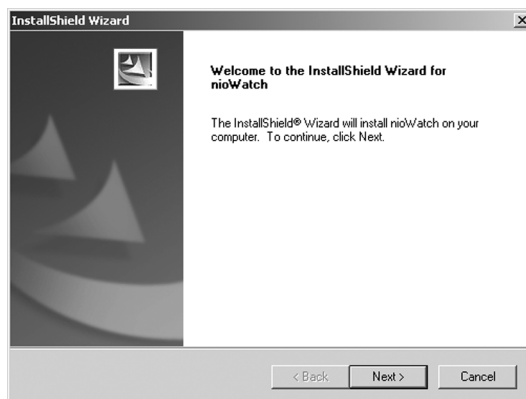

Figure 26
1. Click **“Next”** on the Welcome Screen of the BARCO NioWatch InstallShield Wizard (figure 26) to begin the installation or click **“Cancel”** to cancel and return to the BarcoMed Product Install Wizard.